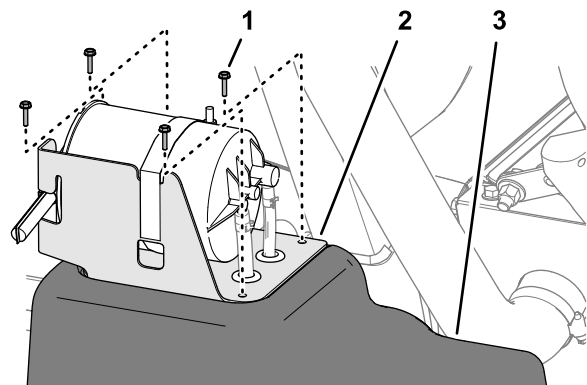

Figure 117
2. At the fuel tank, remove the 4 screws (#10 x 3/4 inch) that secure the carbon-canister bracket to the top of the fuel tank (Figure 117).